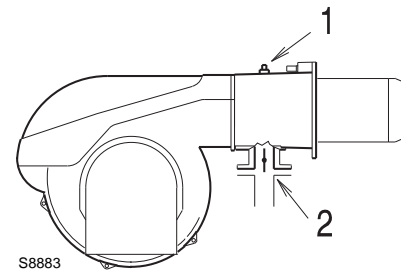

Fig. 22
Gas pressure measured at test point 1)(Fig. 22), with:
Pressure loss at gas butterfly valve 2)(Fig. 22) with maximum opening: 90°.
- subtract the combustion chamber pressure from the gas pressure measured at test point 1)(Fig. 22).
Gas pressure at test point 1)(Fig. 22) = 11.7 mbar
To calculate the required gas pressure at test point 1)(Fig. 22), set the maximum modulating output required from the burner operation:
- read, on the right (column 1), the pressure at the test point 1) (Fig. 22).
pressure required at test point 1)(Fig. 22).